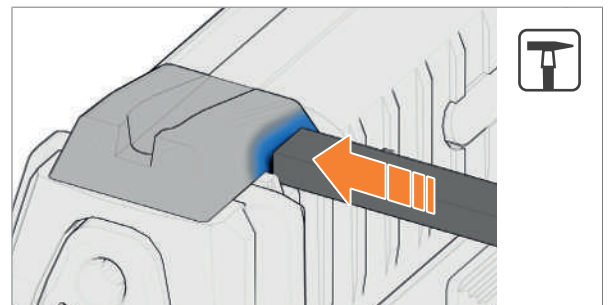

Fig. 38: Removing rear sight
3. Remove rear sight with tool (*Fig. 38*).